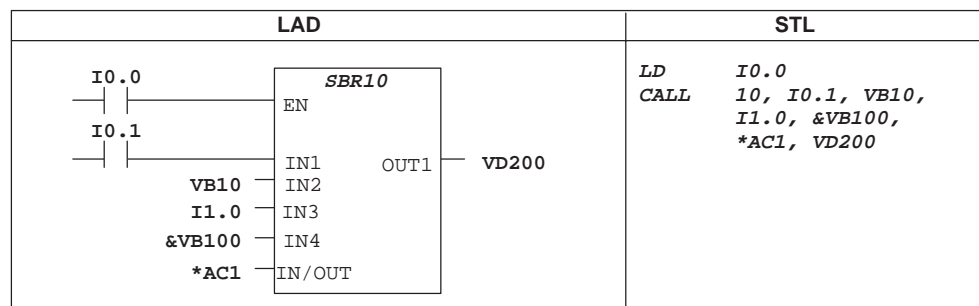

Figure 9-54 Subroutine Call in LAD and STL
- **Power Flow:** Boolean power flow is allowed only for bit (Boolean) inputs. This declaration tells STEP 7-Micro/WIN 32 that this input parameter is the result of power flow based on a combination of bit logic instructions. Boolean power flow inputs must appear first in the local variable table before any other type input. Only input parameters are allowed to be used this way. The enable input (EN) and the IN1 inputs in Figure 9-54 use Boolean logic.
- **Boolean -** This data type is used for single bit inputs and outputs. IN2 in Figure 9-54 is a Boolean input.
Address parameters such as IN4 in Figure 9-54 (&VB100) are passed into a subroutine as a Dword (unsigned double word) value. The type of a constant parameter must be specified for the parameter in the calling routine with a constant describer in front of the constant value. For example, to pass an unsigned double word constant with a value of 12,345 as a parameter, the constant parameter must be specified as DW#12345. If the constant describer is omitted from parameter, the constant may be assumed to be a different type.